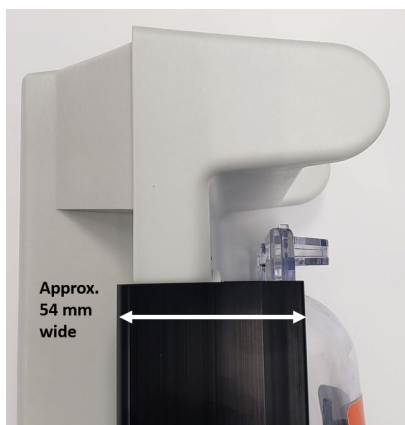

Figure 2: Wide Hinge Width 54mm (Affected Chambers)
3. If the device has the wider hinge assembly as shown in Figure 2, then it is affected, and the hinge should be replaced. Smiths Medical will contact you when the replacement kit is available through the email id PressureChamberFieldCorrection@icumed.com. Until the replacement kit is available, please take the steps described below: